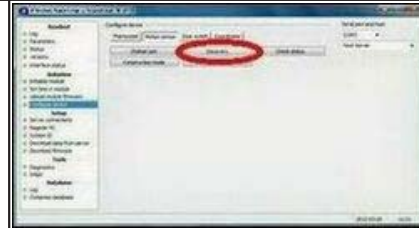

Figure 96
4. Choose the **Motion sensor** tab in the **Configure device** section of Orion Service. Click the **Discovery** button; see Figure 96.